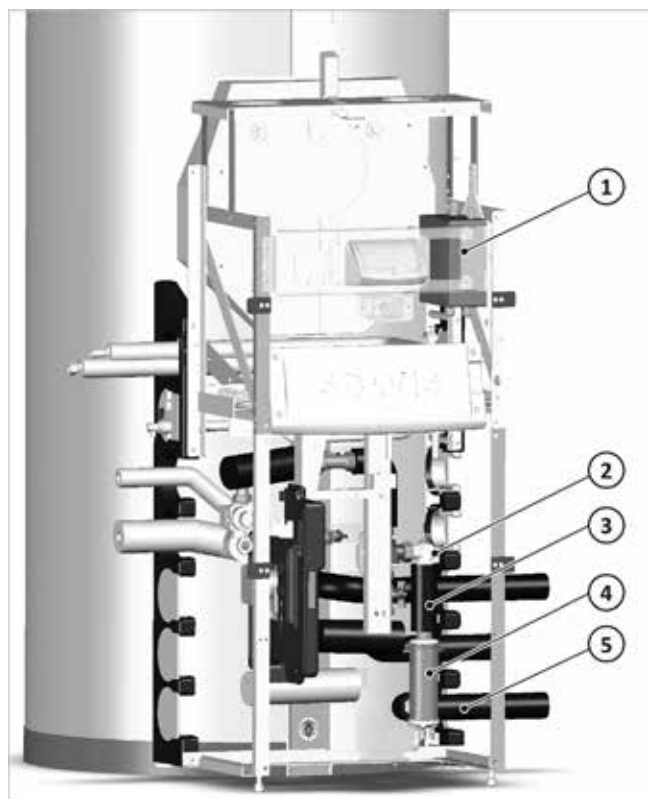

Fig. 19: Position of the components in the charging module
→ Fig. 19 shows the position of the connection box (1) and heating cartridge (4) in the charging module. The connection pipes for the heating pump and heating flow can be routed through the side pipe lead-through on the right or left.
1. Screw the connection box onto the top of the charging module; see → fig. 19 (1).